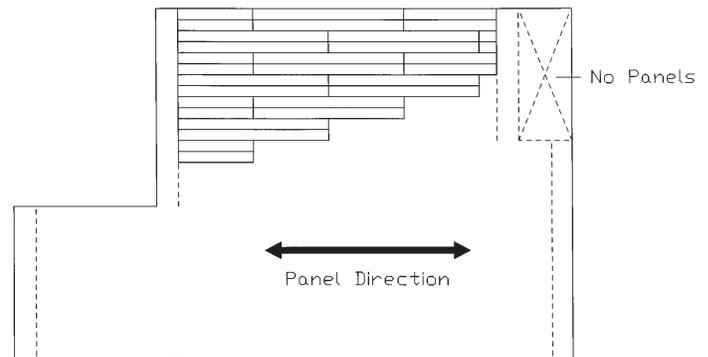

**Figure 4**
3. Snap a chalk line to outline each of the Return Trak walls (see **Figure 4**).